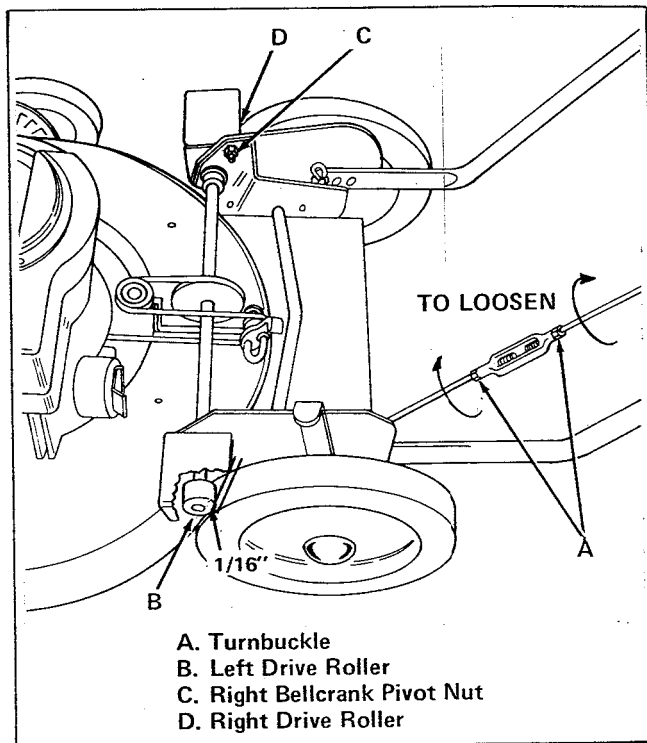

Figure 40. Adjusting Mower Drive
1. Loosen two nuts on turnbuckle (item A, figure 40).